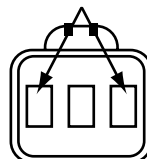

Figure 7-5 Pins to jump for flash codes
- Jump pins as shown in Figure 7-5.